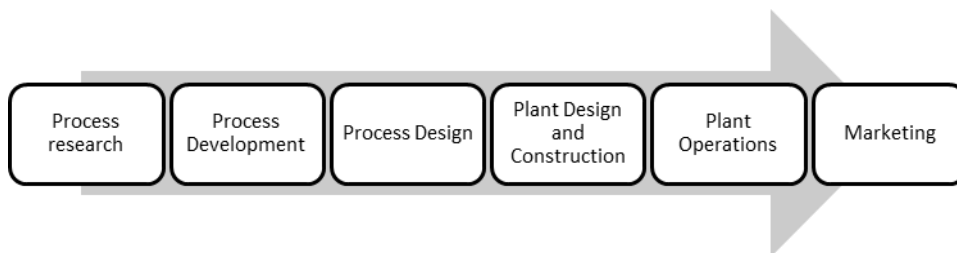

Figure 4: Structure of a project
- (5). (a). Figure 4 shows structure of a project in conceptual design. Describe what is conceptual design. State when Phase 0 and Phase 1 should take place and list at least three criteria for both phases.